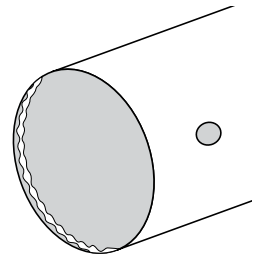

Figure 8
2. Apply and spread a bead of white glue along the inside edge of the tube closest to the hole (Figure 8).